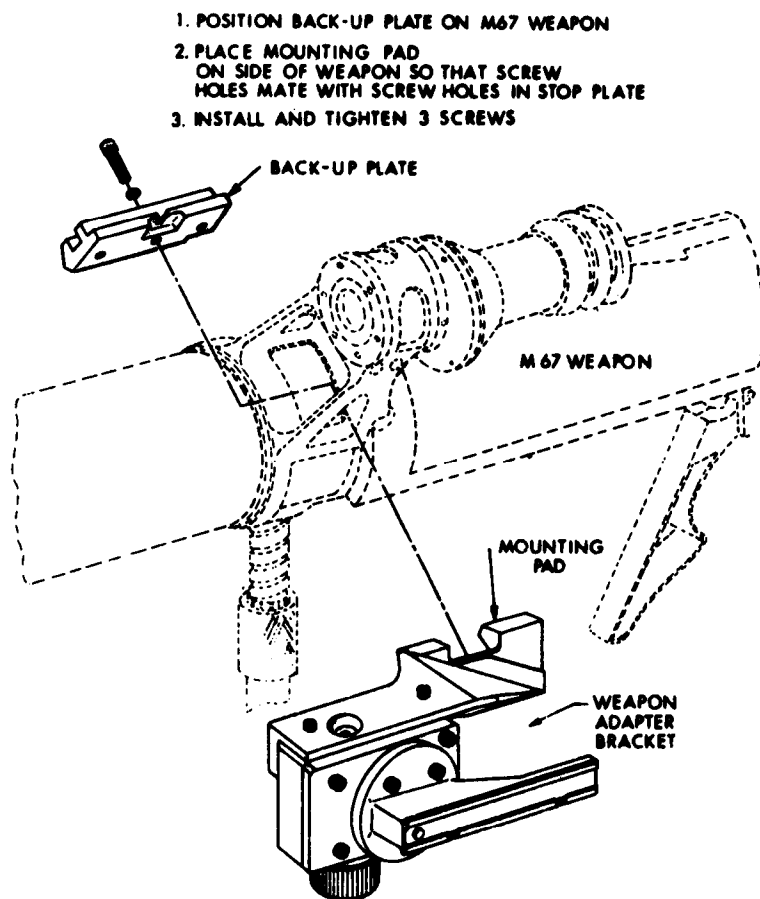

Figure 14. Installation of weapon adapter bracket to the 90-mm recoilless rifle M67.
d. 90-mm Recoilless Rifle M67. Position the backup plate of weapon adapter bracket against the inside of the M103 sight mounting bracket (fig. 14). Place the mounting pad of the bracket against the left side of the M103 sight mounting bracket so that the screw holes in the mounting pad mate with the screw holes in the backup plate. Install and tighten the three socket head screws with the allen wrench.